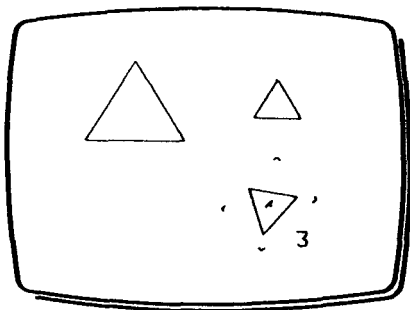

Fig 3
- 3 Rotate Z to alter the size, and move XY to position the cursor frame at (3) in Fig 3.